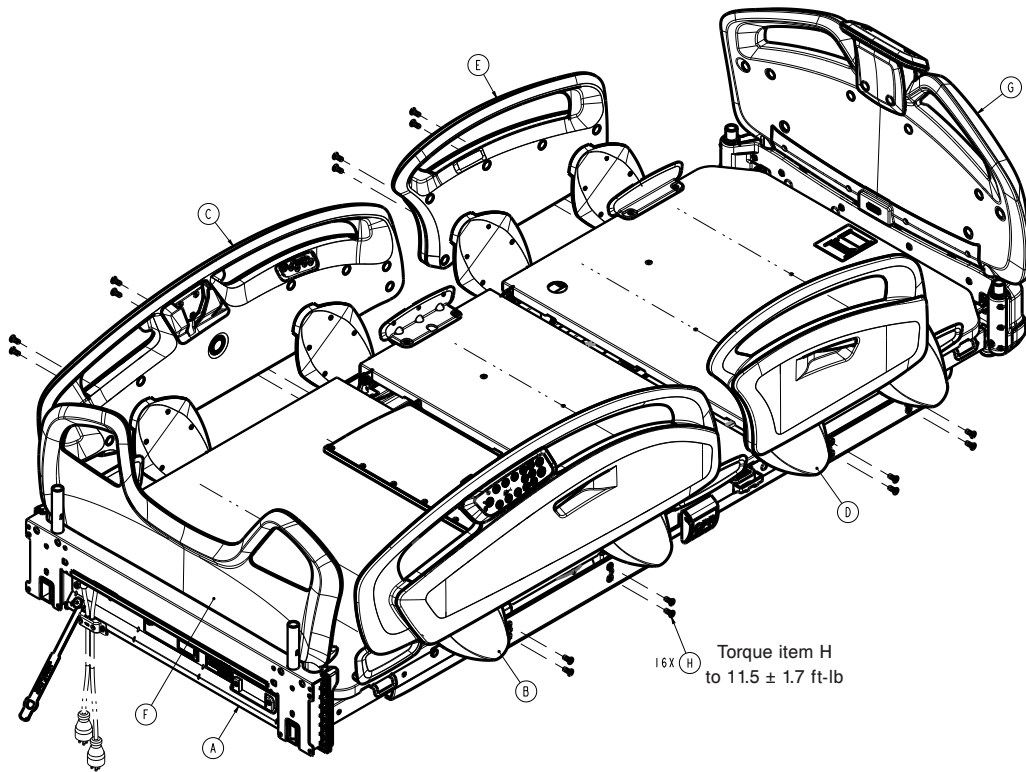

Figure 58 – Replacing the siderail hoop
20. Using a T27 Torx driver while you support the siderail, remove the four bolts (H) that secure the siderail mounting bracket to the Fowler frame (Figure 58). Remove the siderail assembly.
9. Using a T30 Torx driver, remove the screw (AC) that secures the siderail position switch (U) to the siderail hoop. Pull out the cable retainer. Remove and save the switch.
10. Using a ratchet and a 1/2" socket, remove the nut (W) that secures the latch activation lever and the siderail detent paw. Remove and save the activation lever and detent paw.
11. Using a ratchet and a 9/16" socket, remove the nut (Y) that secures the siderail latch (G) to the siderail hoop. Remove and save the latch.
13. Using a T27 Torx driver while you support the siderail, remove the four bolts (H) that secure the siderail mounting bracket to the litter frame (Figure 58). Save the bolts. Remove the siderail assembly.